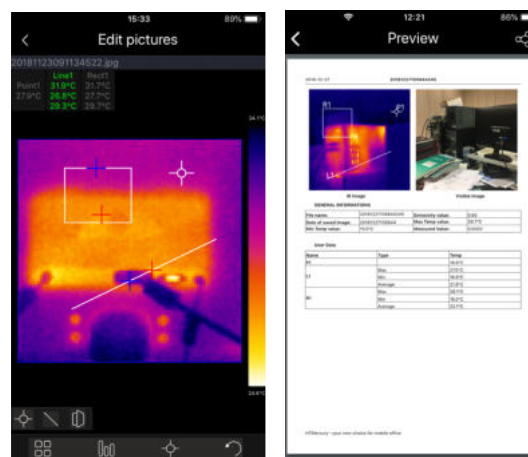

Fig. 21: Applications of the APP HTMercury
1. Press key **ESC**/ to activate Manual mode. The temperature values stay fixed within a frame with grey background and symbol  appears on the display (see Fig.21 – left side).
2. Press key **▲** to set the higher temperature value. The following screen (see Fig.21 – middle) appears on the display.
4. Select virtual key  to delete the value, press key **T** to define each value and select the virtual key **“Enter”** to confirm the value (e.g.: 35.0°C in Fig. 21 – middle) and quit setting section.
6. The display of the object in Manual mode is shown in Fig. 21 – right side.